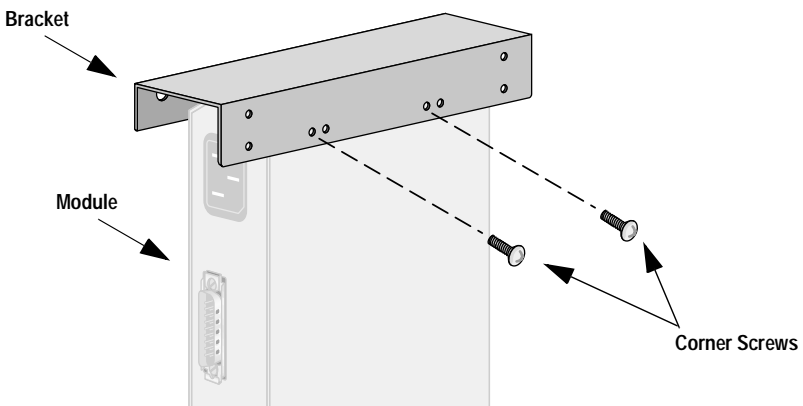

Figure 3 Attaching a Bracket on a Slim-line Module
- a. Align one end of the module with the pre-drilled holes on the bracket. Refer to Figure 3.